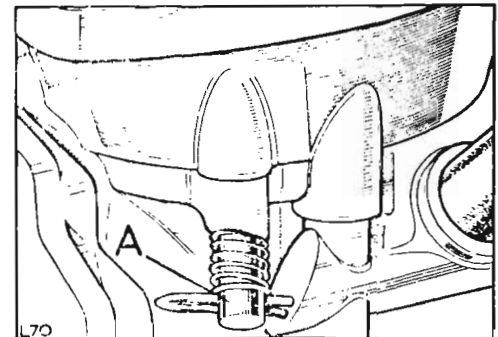

Fig. 10
2. Lift the carburettor piston approximately 1 mm (0.031 in.) by means of the lift pin (A) Fig. 10 situated on the right of the carburettor body. There is approximately 5mm (0.187 in.) free movement of the lift pin before it contacts the piston.